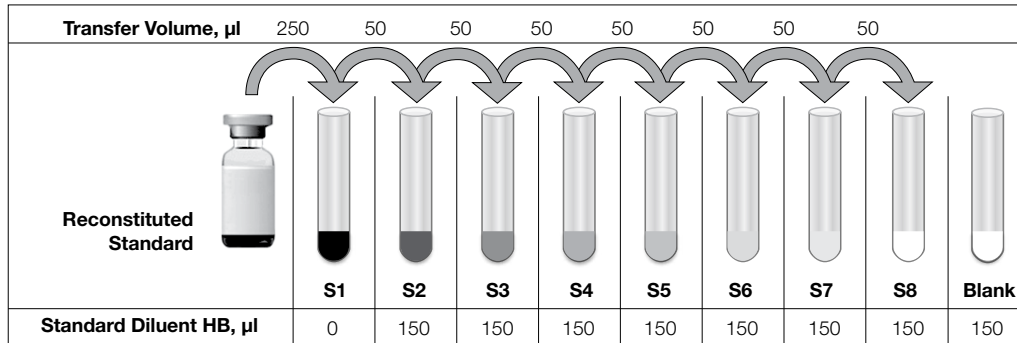

Fig. 3. Preparing a fourfold dilution series of human cytokine standards.
6. Add the specified volume of standard diluent to each tube (Figure 3).
- Continue with 1:4 (fourfold) serial dilutions from tube S2 to S8 as shown in Figure 3. Use reconstituted and diluted standards immediately. Do not freeze for future use.